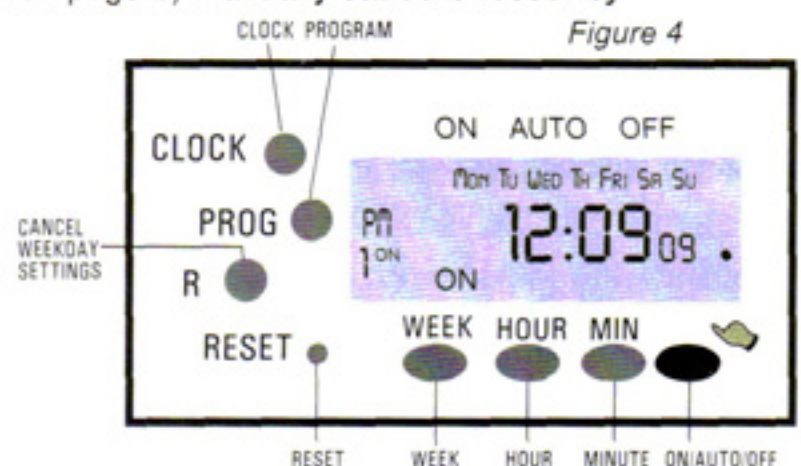

Figure 4
11. Manual operating mode: (Section 3.0 of the digital timer on page 5) Manually start the feeder by pressing the "👉" button and placing the LCD display in "ON" mode. (Refer to Figure 4.) After a few moments the feeder should feed food through the opening in the front of your feeder into the bowl. Wait for 3 to 5 minutes and push the "👉" button until the LCD display reads "OFF". This fill process allows for the food to fill in all the voids in the appliance. Place the timer in the "AUTO" mode prior to proceeding to the next step by pressing the "👉" button.